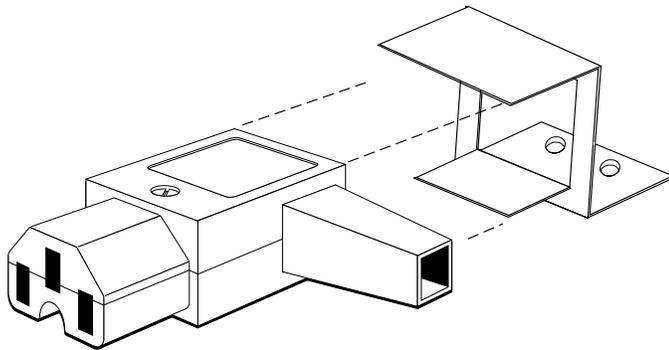

Figure 2-3. Cable Retainer Bracket.
2. Place the retainer bracket over the connector so that the shorter sides wrap around the connector and the screw holes on the large flange line up with those on the case (see figure 2-3).